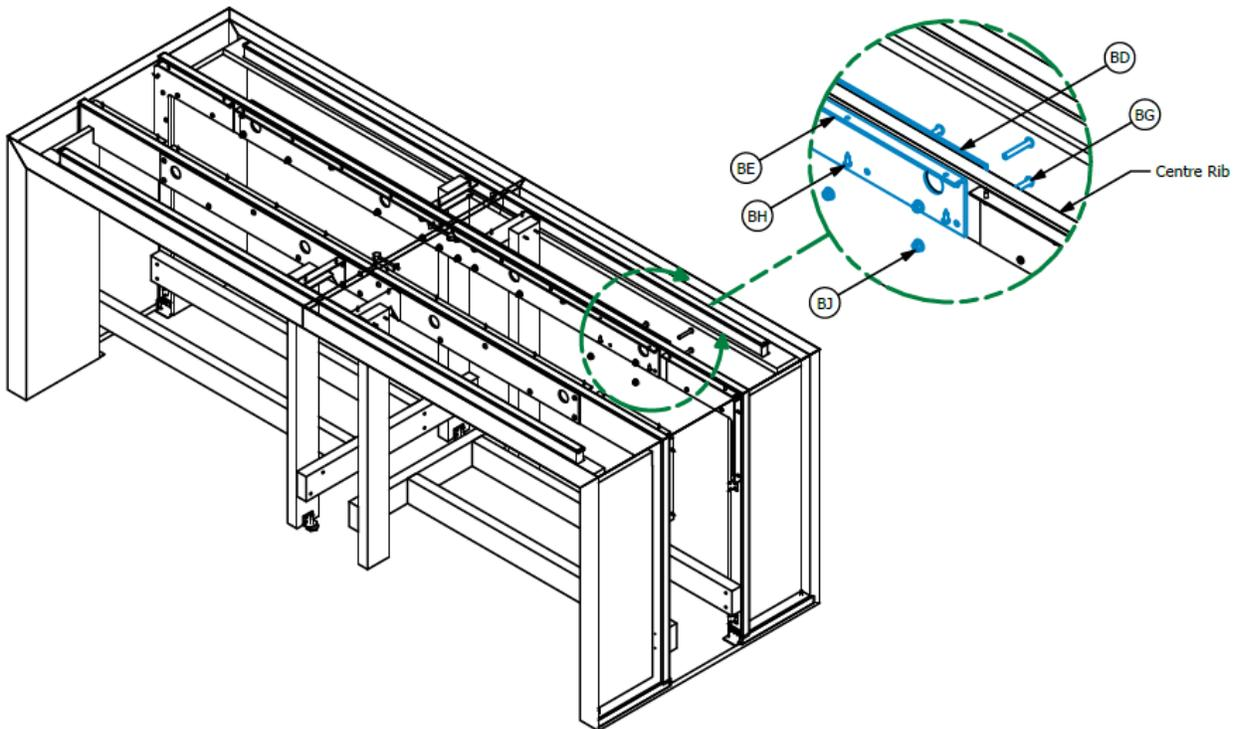

Fig. 03: Stiffener Install
- 2.1.2 Using a 3/16" Internal Hex Socket and 1/2" Wrench, secure Flat Stiffener Rail (BD) and Angled Stiffener Rail (BE) to the Centre Ribs using Button Head Cap Screw (BG) and Hex Nut (BJ) with Flat Stiffener and Button Head Cap Screws on the outside surface. [Fig. 03]
- 2.1.3 Using a #2 Phillips Driver, complete the install of the stiffeners using Wood Screw (BH) to the underside of the top. [Fig. 03]